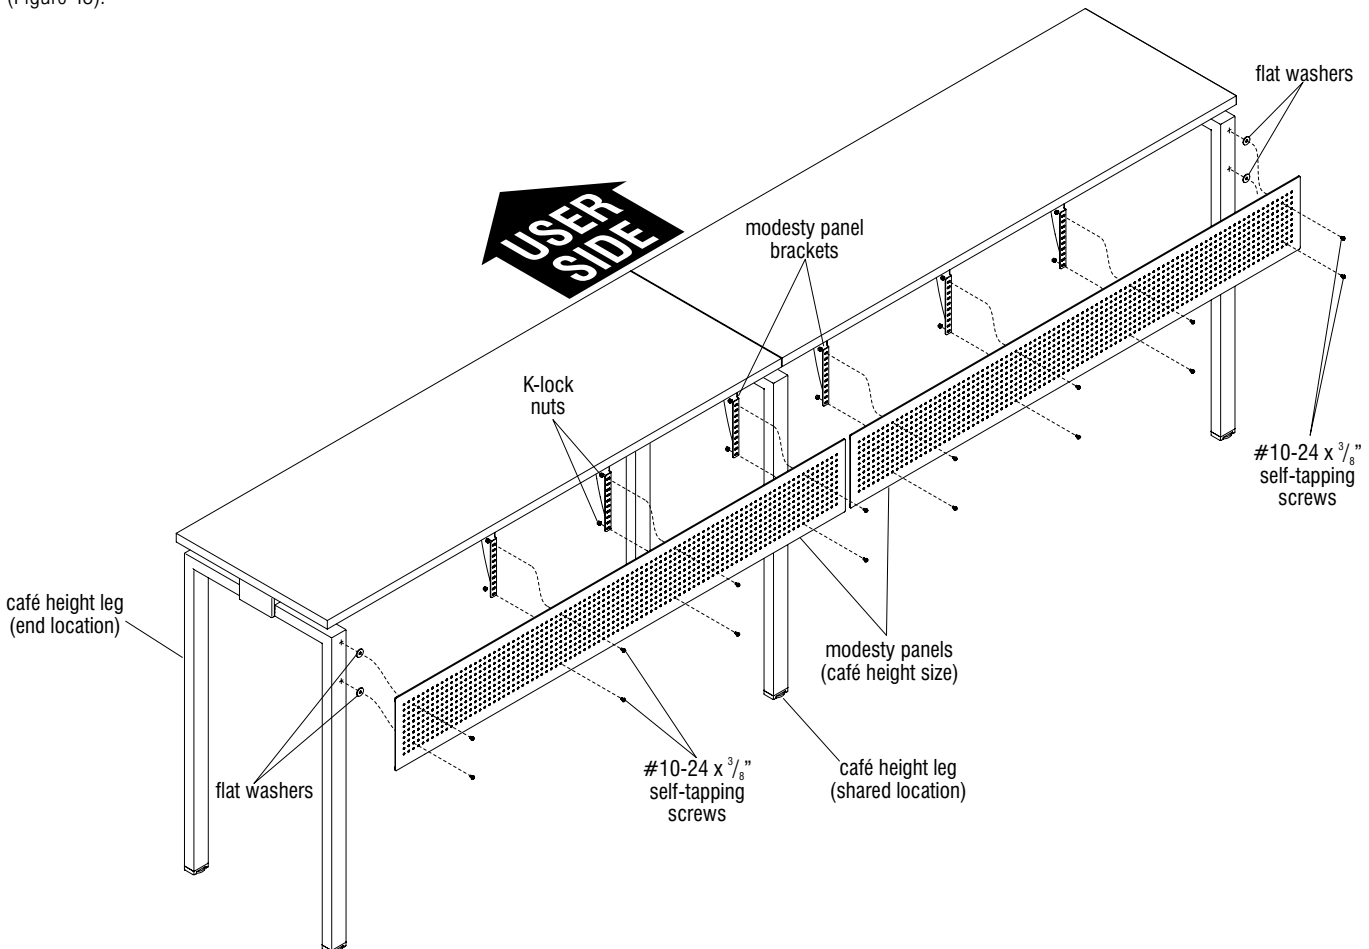

Figure 43 - Single-Sided Fixed, Café Height Benching, Modesty Panel Installation
3. Carefully position the modesty panel up to the modesty panel brackets, and center the modesty panel on the worksurface. Take care to also align the appropriate top and bottom mounting holes of the modesty panel with the corresponding holes in the modesty panel brackets (Figure 43).
4. Using #10-24 x  $\frac{3}{8}$ " self-tapping screws in the front and K-lock nuts at the rear, secure modesty panel to the modesty panel brackets. Only the top and bottom mounting holes of each modesty panel bracket need be used for attaching the panel to each bracket. Take care to push upward on the bottom of the modesty panel while tightening the screws, so the unused holes in the modesty panel align with the slots in the bracket for a clean finished look (Figure 43). Make sure panel is level before going to the next step.
5. After panel is secure to brackets, use a  $\frac{1}{64}$ " drill to bore two pilot holes into end legs. Both pilot holes will be in the third vertical column over, with one hole in the second row down, and the other hole will be in the second row from the bottom (Figure 43).
6. Next, using the supplied #10-24 x  $\frac{3}{8}$ " self-tapping screws and flat washers, secure the modesty panel to the leg. Flat washers go between modesty panel and leg as illustrated (Figure 43).
1. Follow instructions on previous page (Figure 43) to install modesty panels to both sides of café height legs which are specified for a "teaming table top".